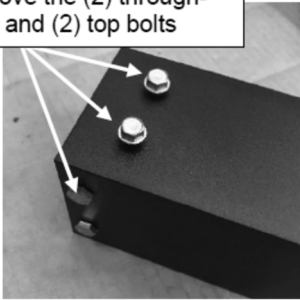

Figure 11
- Place the post on a suitable work surface and remove the (2) through-bolts (with washers and nuts) and the (2) bolts (with washers) from the threaded holes on the top of the post. Use the (2) through-bolts (with washers and nuts) to secure the post bracket to the post (see Figure 11). Attach the (2) top bolts through the leveling bracket (pre-installed on the post bracket) into the post – **DO NOT OVERTIGHTEN THESE BOLTS – THEY THREAD INTO THE ALUMINUM POST** (see Figure 12)